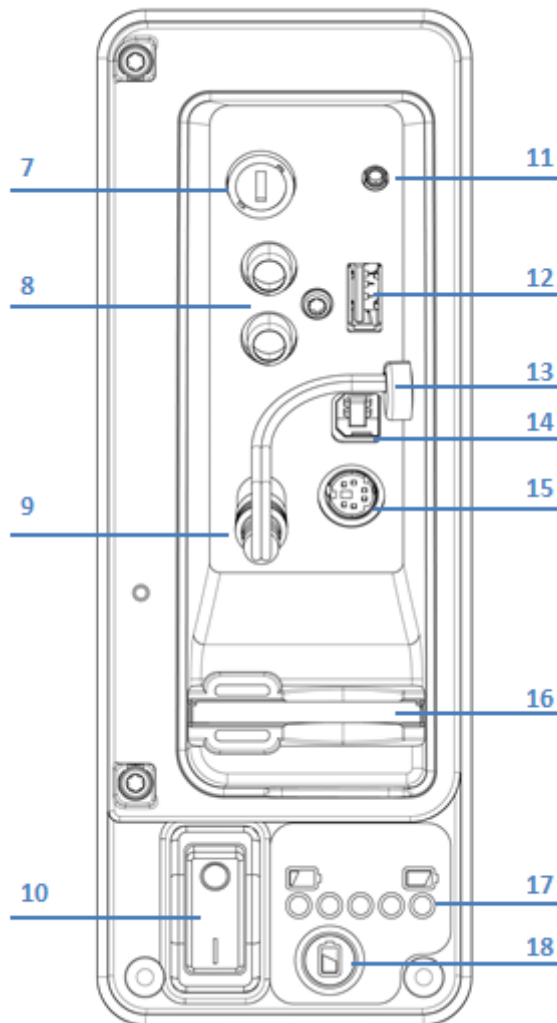

Figure 2.3 Controller I/O socket
- Ensure the **On/Off switch** (item 10 in Figure 2.3) is set to the **Off** position.
- Connect the power supply (12-24V DC vehicle supply, mains adaptor or optional battery pack) to the power socket. (Item 9 in Figure 2.3).
Insert a compatible Compact Flash card into the card slot, which is located inside the I/O panel (Item 16 in Figure 2.3).
Insert a compatible USB flash drive, (commonly known as a memory stick or thumb drive) into the USB socket, which is located inside the I/O panel (Item 12 in Figure 2.3).